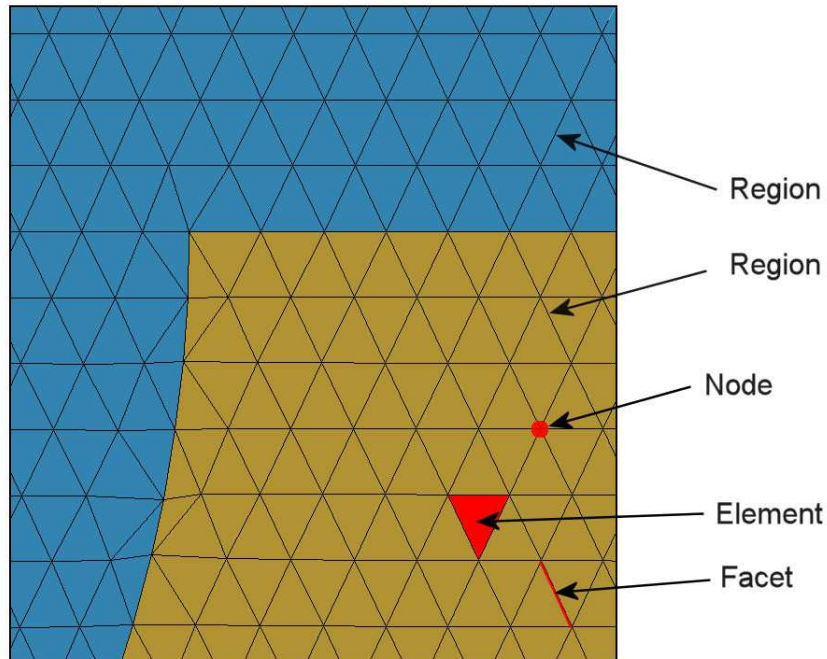

Figure 2: Conformal triangular mesh – definition of terms.
The basis of the finite-element approach is to divide the full solution volume into a number of small volumes, or *elements*. Here, the term *small* indicates that element dimensions are much less than the scale length for variations of field quantities. The division of the volume is called the *computational mesh*. Figure 2 shows the type of mesh used for the two dimensional solutions of **PerMag**. The figure defines three terms that will be used throughout this manual:
The elements in Fig. 2 have triangular cross-sections. In a planar solution, the cross-section lies in the  $x$ - $y$  plane and the elements extend an infinite distance in the  $z$  direction. In a cylindrical solution, an element is a figure of revolution about the axis with a triangular cross-section in the  $z$ - $r$  plane.
The mesh in Fig. 2 has the important property of *conformality*. The term means that the triangles have been specially shaped to conform to the boundaries between materials (*regions*).
2. **Mesh** analyzes the boundary specifications and automatically generates a set of conformal triangles such as those of Fig. 2. The program creates an output file that lists the locations of nodes and the identities of elements.